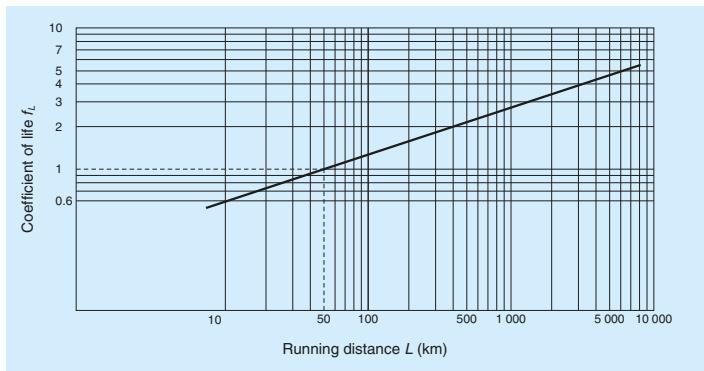
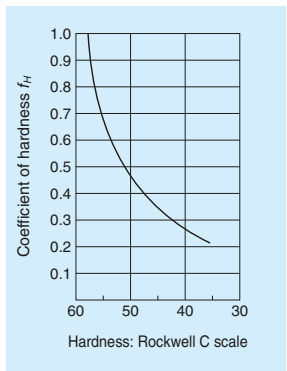

Fig. 4 Relationship between life factor and running distance
Fig. 5 Hardness factor
- P* : Radial load (N)
- fL* : Life factor (Refer to Fig. 4)
This formula is used provided that the shaft hardness is HRC58 or higher. Rated life is shorter if the shaft is softer. In this case, find the hardness factor *fH* from Fig. 5, and multiply the value.
From Fig. 4 and Fig. 5,